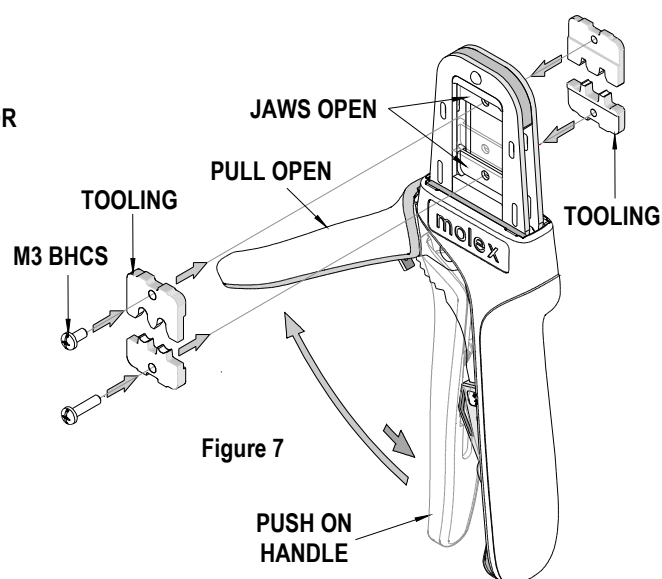

Figure 7
3. Flip the upper tooling to the opposite side and replace the M3 BHCS. Make sure the small markings on the front and back of the hand tool frame, match up and are on the outside of the hand tool frame. See Figure 7 and 8.